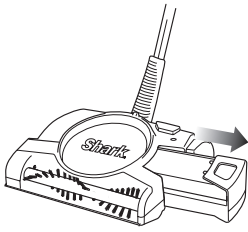

Fig. 9
- 1** To achieve the best performance, empty the dust container after each use. Pull the dust container straight out from the side. (**Fig. 9**)
- 1 Pull the dust container straight out from the side of the unit to remove. (Fig. 9)